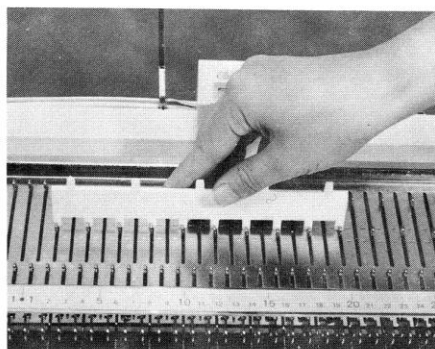

Fig.41
- f) With the 1 x 1 selector plate, bring forward into position (D) every alternate needle as shown in Fig.41.